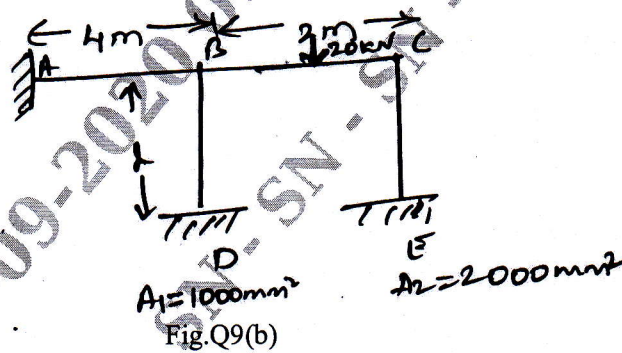

Fig.Q9(b)
b. A beam ABC 5m long is hinged at 'A' and supported by vertical props BD and CE at B and C as shown in Fig.Q9(b). Beam carries a load of 20 kN at the middle of BC. $E_{BD} = 1 \times 10^5 \text{ N/mm}^2$; $E_{CE} = 2 \times 10^5 \text{ N/mm}^2$. Find the load transmitted by the props.